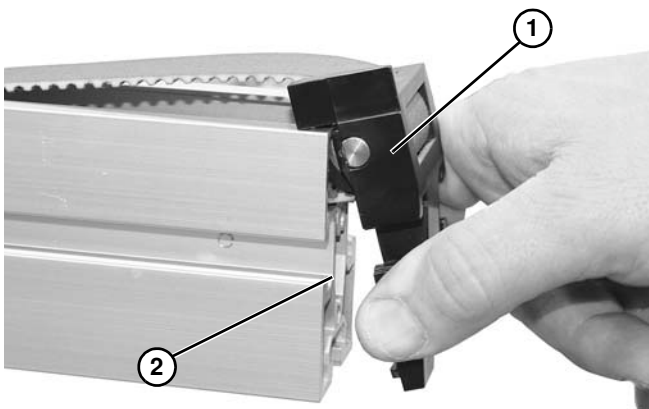

Figure 35
7. Remove the end cap (**Figure 35, item 1**) from the conveyor (**Figure 35, item 2**) on both ends.